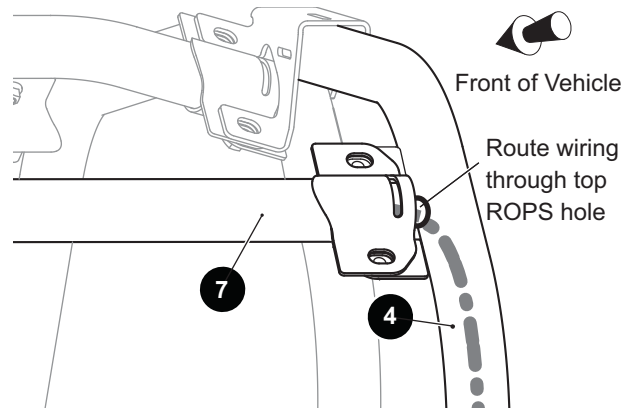

Fig. 5 CHMSL Wiring
5. Position the extended cab cross-tube (7) as shown. Route the end of the wiring harness down through the top hole in the passenger side extended cab ROPS tube (4) and down through the vertical ROPS tube (Ref. Fig. 5). Connect the CHMSL harness to the rear harness as shown. Use a cable tie to secure any excess wiring to the vehicle frame.